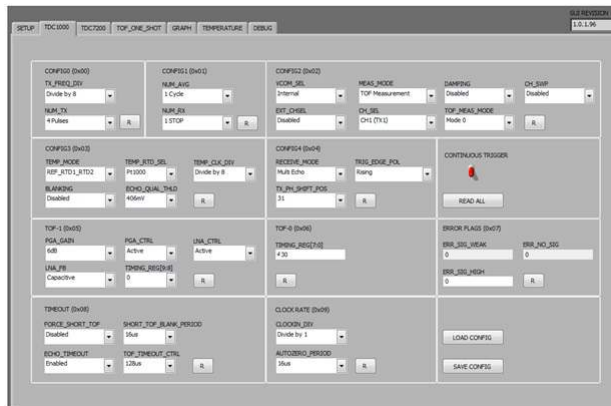

Figure 5-4. EVM GUI - TDC1000 Tab
- (a) In the GUI, click on the "TDC1000" tab, then click to enable "CONTINUOUS TRIGGER". Refer to Figure 5-4. The message "Start Continuous Trigger successful!!" should appear at the bottom of the GUI.